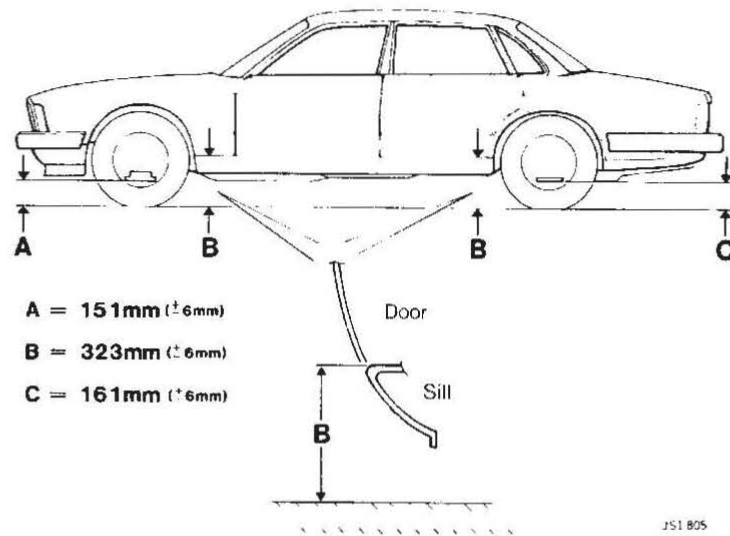

FIG 1
- 5) Measure the front and rear ride heights, i.e. from the top of the sill to the ground (Fig 1). Note results.
- 8) Measure the front and rear ride heights again (Fig 1). If the measurements are within the tolerances specified (Fig 1), then the system is functioning correctly.
- 12) If the vehicle still does not conform to the ride height shown (Fig 1) then other causes of system malfunction must be investigated i.e.